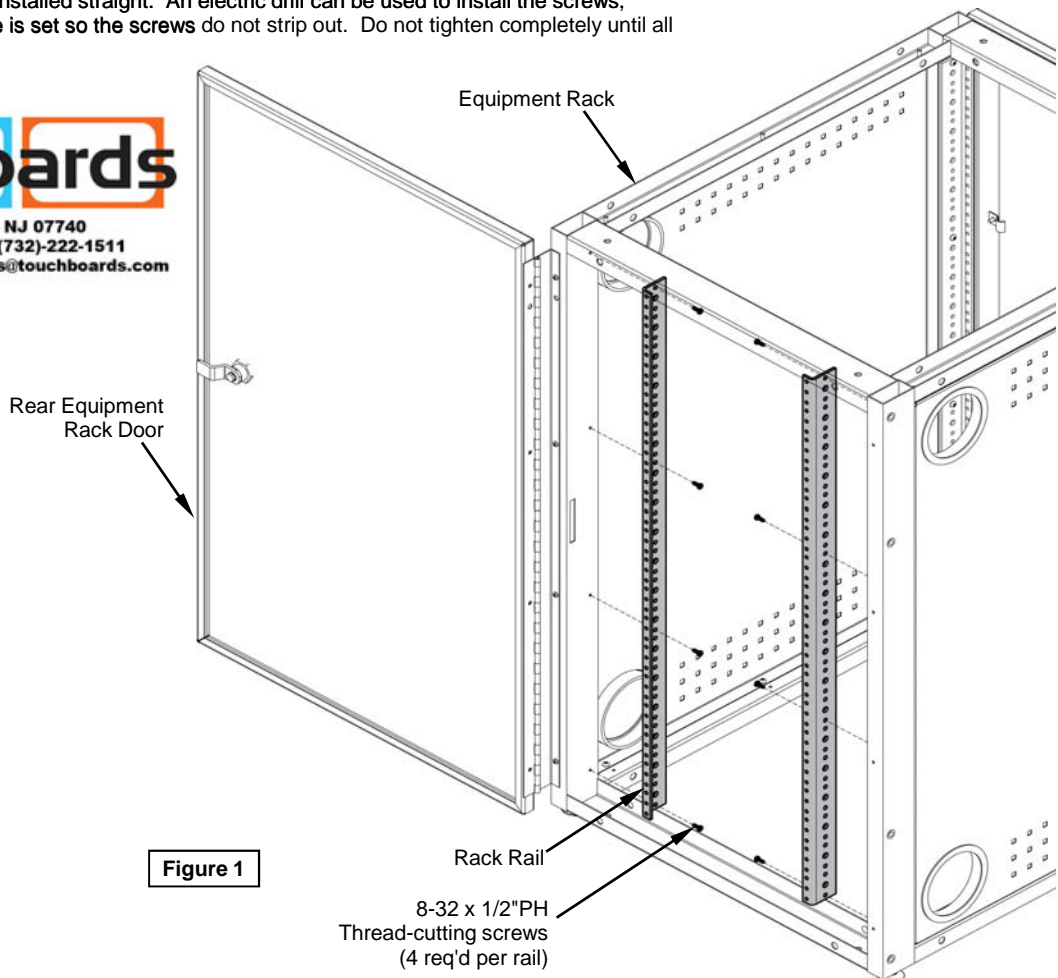

Figure 1
- Align each rack rail with the pre-drilled equipment rack mounting holes. **Figure 1.** Be sure the short leg on each rail points inward as shown.
- Attach each rail to the equipment rack frame with (4) 8-32 x 1/2" PH thread-cutting screws, while making sure the screws are installed straight. An electric drill can be used to install the screws, but make sure the drill torque is set so the screws do not strip out. Do not tighten completely until all screws are installed.